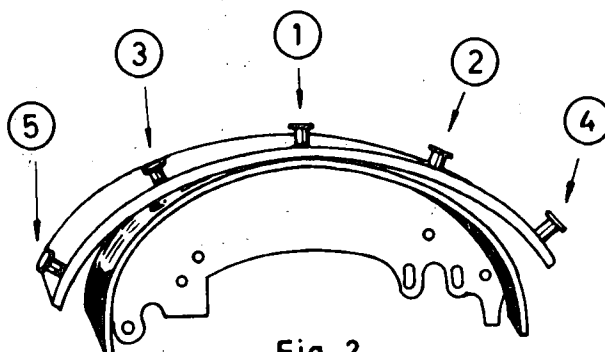

Fig. 2
g) Rivet first the centre and then outwards as in (fig. 2).